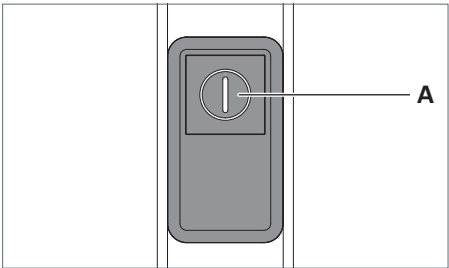

Fig. 18: Control element.
- Press the key **A** seven times quickly in succession, see Fig. 18.
- Press the key **A**, see Fig. 18.
- Press the key **A** and keep this key pressed, see Fig. 18.